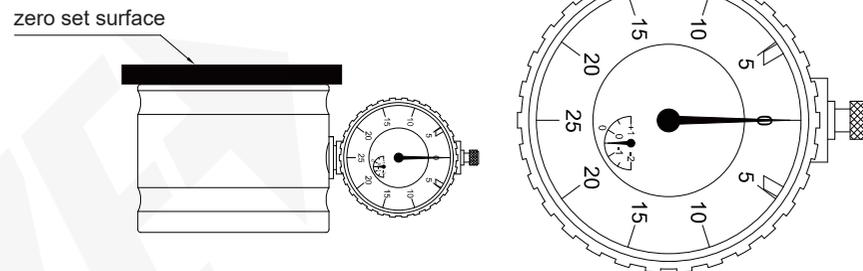

Fig.1
- Press zero set surface to make anvil surface and reference surface to the same level, dial indicator shows that long pointer points 0, short pointer points -0.5 (Fig.1)